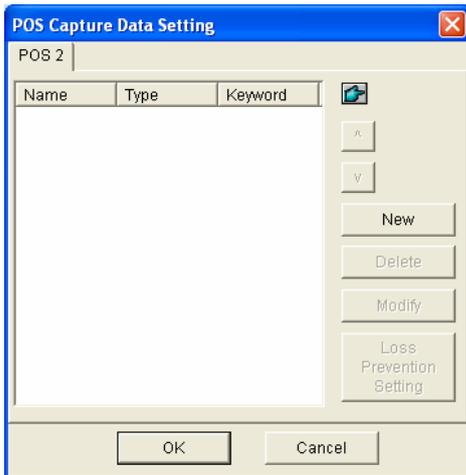

Figure 3-5 POS Capture Data Setting
2. In the POS Capture Data Setting dialog box (Figure 3-5), click the **Loss Prevention Setting** button. This dialog box appears.
1. On the main screen, click the **Configure** button, point to **Accessories**, click **POS Application Setting**, and select **POS Filed Filter Setup**. The POS Capture Data Setting dialog box (Figure 3-5) appears.
- To trigger an alarm when the defined text is detected during the transaction, click the **Loss Prevention Setting** button in the POS Capture Data Setting dialog box (Figure 3-5). This dialog box appears.